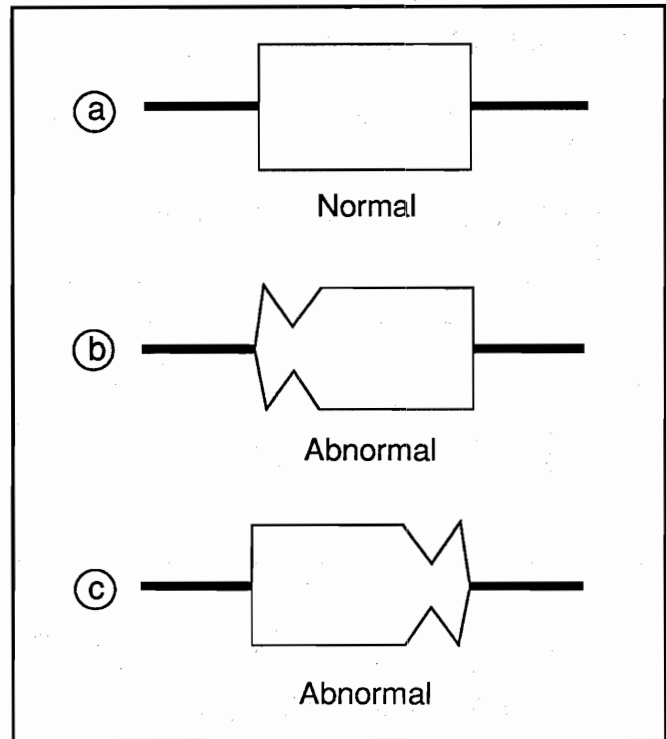

Fig. 1-1
- If the waveform is flat (Fig. 1-1-a), the tape transport mechanism is properly adjusted.
- If the left portion of the waveform is not flat (Fig. 1-1-b), an adjustment is required at the supply side of the transport mechanism. Proceed to "Tape Supply Alignment."
- If the right portion of the waveform is not flat (Fig. 1-1-c), an adjustment is required at the take-up side of the transport mechanism. Proceed to "Tape Running Position Alignment."